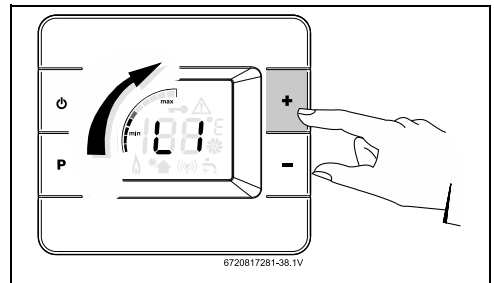

Fig. 48 Gas adjust - L1 parameter
- ▶ Press the button **P** to enter L1 and verify if power bar level is at middle point, see fig. 48.